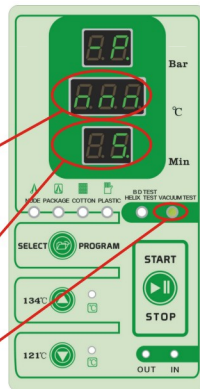

Fig.7.4-12
(2)the vacuum pump start vacuuming,the operation display window appear 5 minutes countdown,vacuumping to the limit.(Fig.7.4-12)
(3)when the pressure reach limit value,the vacuum pump stop work. this pressure is maintained for 5 minutes and then measured P2.(Fig.7.4-12)